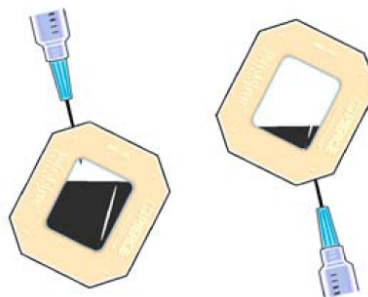

Figure 3 Remove sample.
3. Turn the unit so that needle is on the bottom and allow the sample to collect near the port. Withdraw the sample into the syringe (Figure 3).
10. Penetrate the gasket with the needle through a top, unused syringe guide port. Discharge air into the cassette cavity to separate the membranes, which prevents needle penetration of the membrane (Figure 3 and Figure 7).